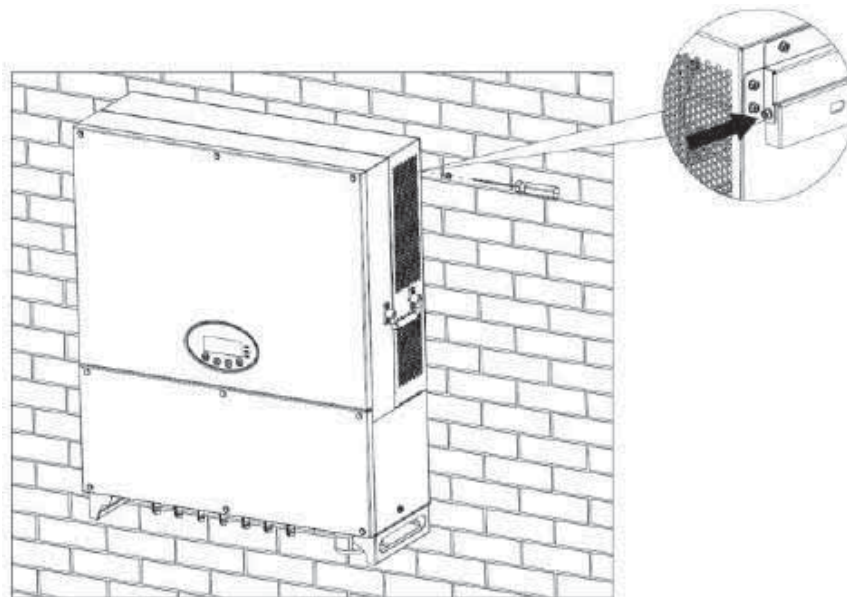

Figure4.12 Installation of M5X20 bolts
- (6) Ensure the inverter is installed properly and tighten the M5X20 bolts into the screw holes on the left and right side of inverter(tightening torque is $3\text{N}\cdot\text{m}$). As shown in Figure 4.12.